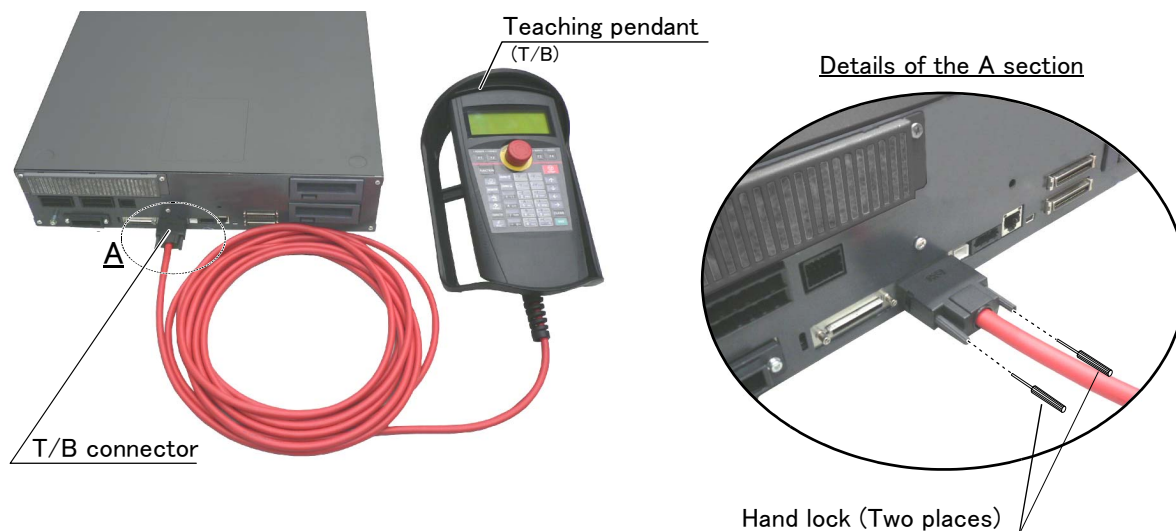

Fig. 2-9 : Installing and removing the T/B (CR751 controller)
- 2) Connect the T/B connector to the controller's T/B connector. Make sure to fix it securely by fastening the hand locks (in 2 places), as shown in Fig. 2-9.